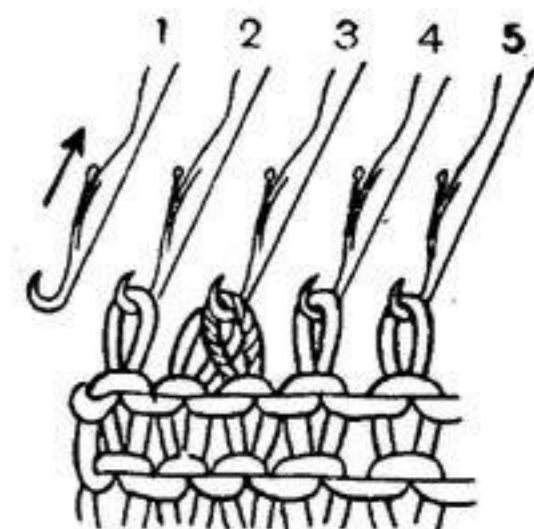

Fig. 41
- (a) Using the double eye Transfer Tool transfer the first and second stitches onto the second and third needles. (Fig. 41)
(Fig. 41)